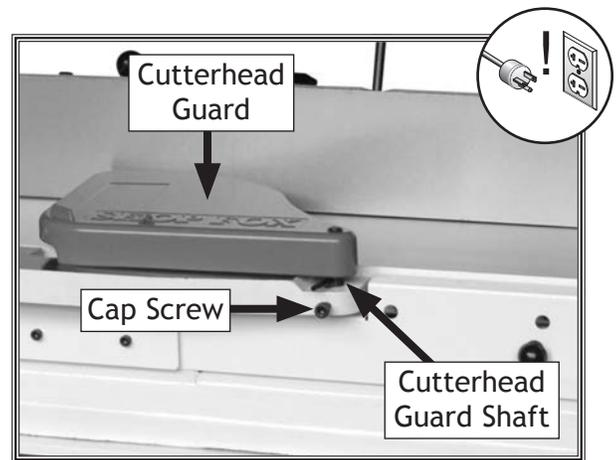

Figure 64. Cutterhead guard components.
2. Make sure fence is out of way, then pull cutterhead guard (see **Figure 64**) back and let it go.
3. Loosen cap screw (see **Figure 64**) that secures cutterhead guard shaft to machine.
4. Lift cutterhead guard so shaft (see **Figure 64**) clears hole, rotate guard clockwise, then re-install guard so flat side of shaft faces cap screw and lowest part of guard is not more than $\frac{1}{16}$ " over rabbeting ledge or infeed table.
5. Tighten cap screw (see **Figure 64**).